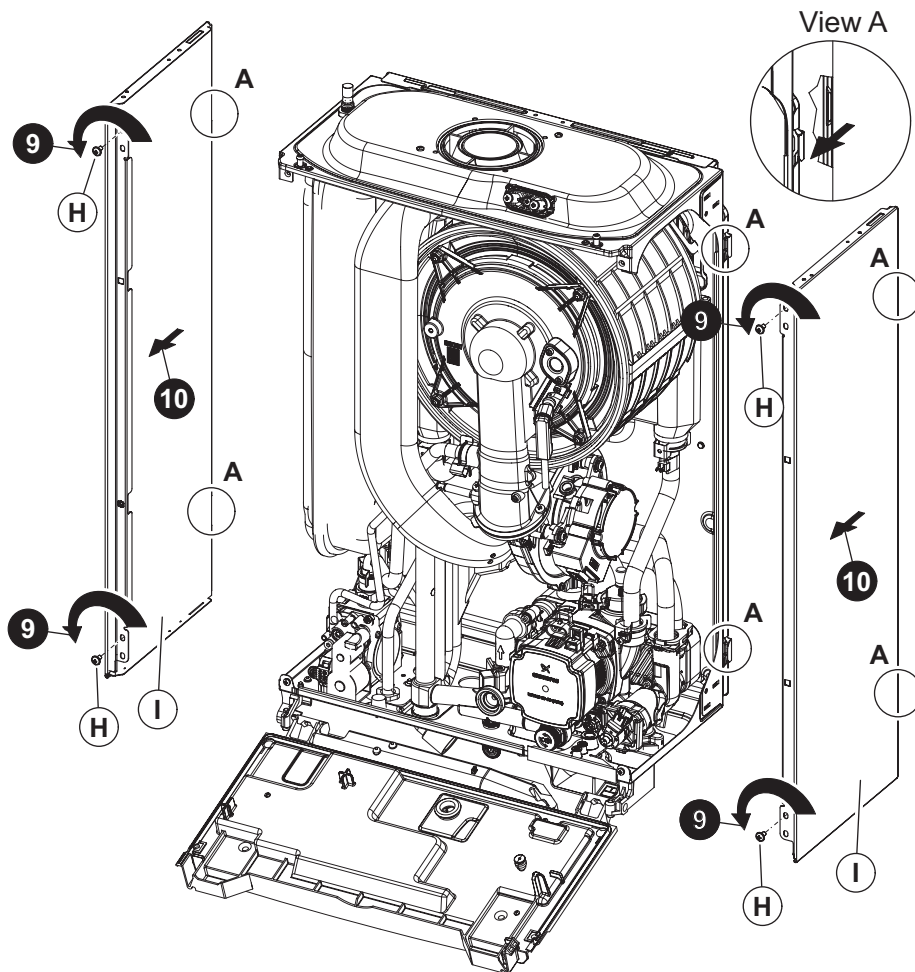

Fig. 7.4
Side panels - Fig. 7.4
9. Remove the screws 'H' securing the side panel 'I'. Lift the side panel and pull it forwards unhooking it from the rear panel (view 'A' in Fig. 7.4).